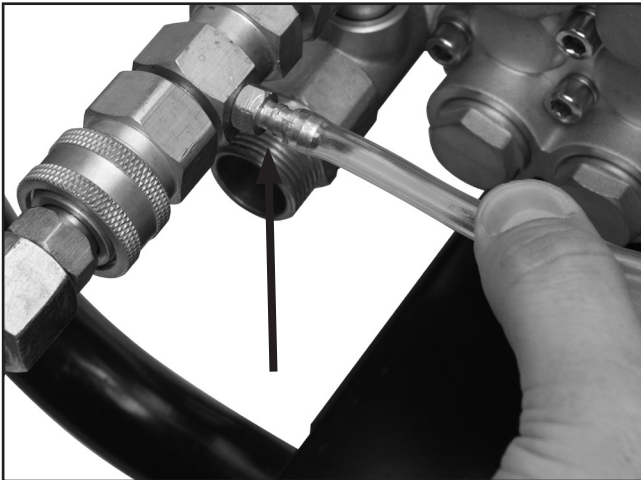

Figure 8. The attached chemical hose.
1. Push the chemical hose onto the barbed fitting located near the pump water outlet as shown in **Figure 8**.